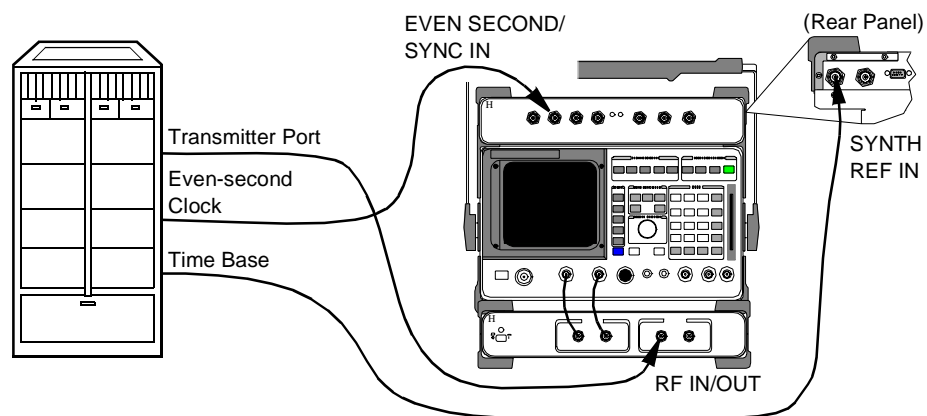

Figure 23
- 1 Connect the equipment as shown in *figure 23*.